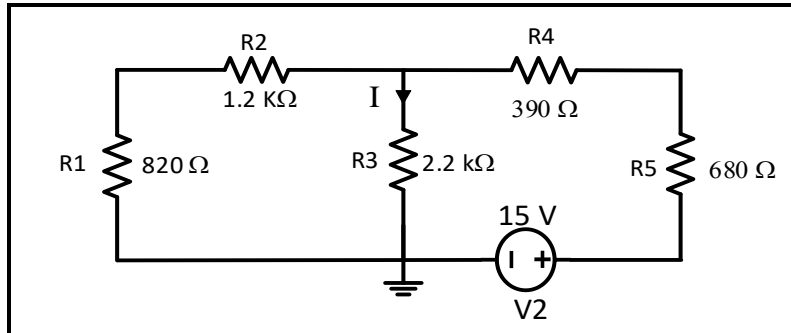

Figure 4.4
5. Connect the circuit of Figure 4.4